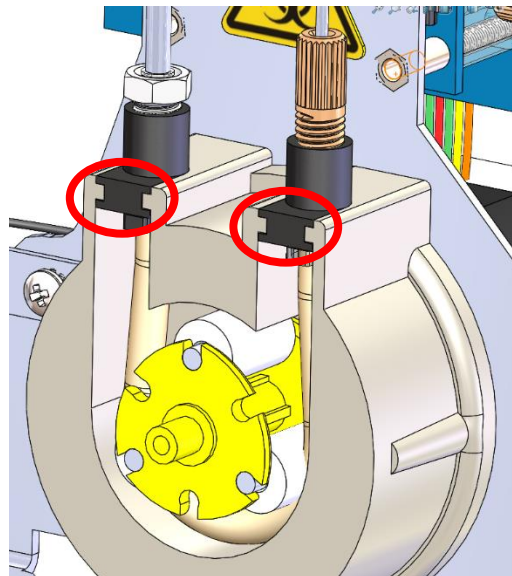

Figure 12
- 15. Remove the old tubing from the primary pump by gently pulling on the tubing through the alignment tabs within the pump housing. Rotate rotor to assist in removal. Clean inside of black compartment (if necessary). Dispose of old tubing in Biohazard Waste containers. See Figure 12.